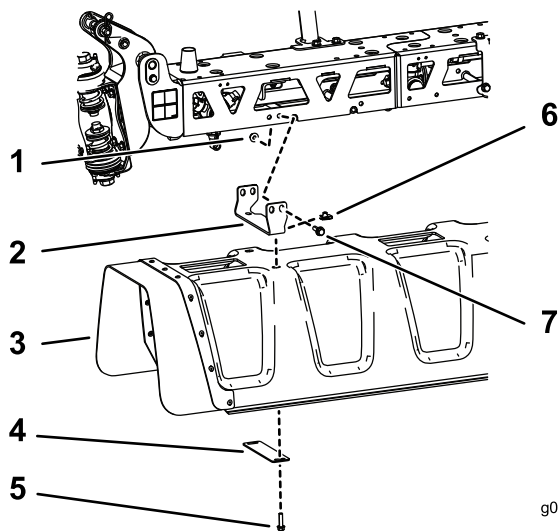

Figure 9
1. Install the center cover to the bracket, using 8 U-nuts, 4 washer plates, and 8 hex-head bolts (5/16 x 1-1/4 inch) as shown in Figure 9.
- Install each of the 4 center-boom brackets and boom mount plates to the center boom using 4 hex-head bolts (3/8 x 1-1/4 inch) and 4 flange nuts (3/8 inch) as shown in Figure 9.